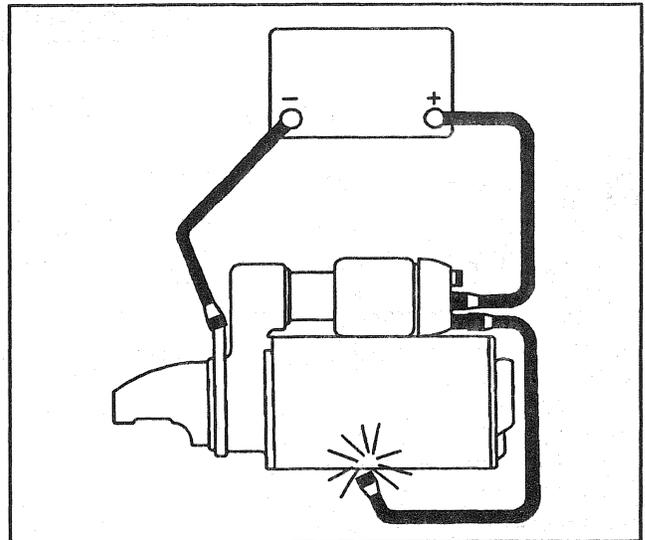

Figure 11—Pinion Clearance Check
To check pinion clearance, perform the following steps (Figures 11 and 12).
3. **Momentarily flash** a jumper lead from the solenoid motor terminal to the solenoid frame. This will shift the pinion into cranking position and it will remain so until the battery is disconnected (Figure 11).